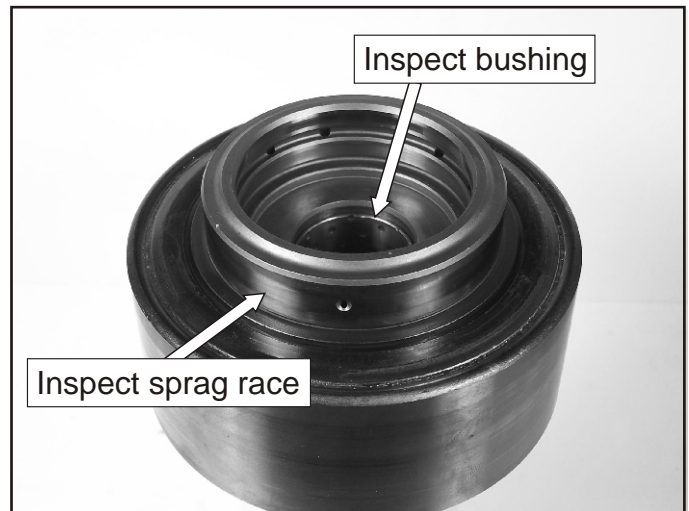

Figure 141
88. Turn the C3 drum over and inspect the rear bushing in the drum. Inspect the sprag race as shown in Figure 141. Replace as necessary.